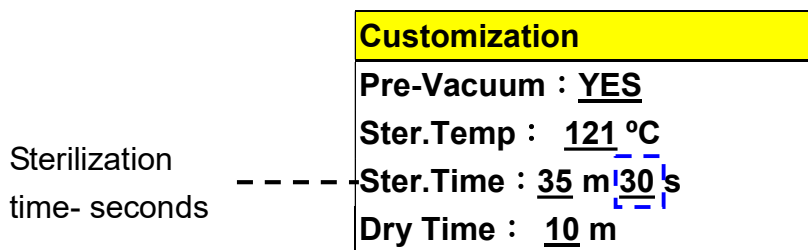

Figure 85
- Press  button to store sterilization time parameter as shown in Figure 85.